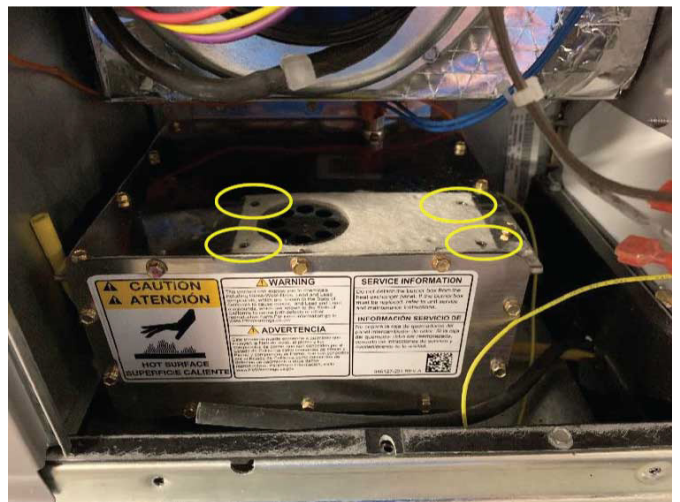
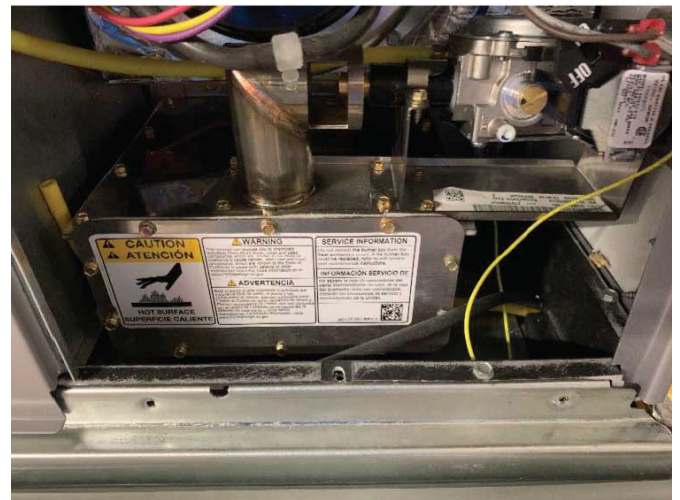

Fig. 14 – Installing the Bracket
Fig. 15 – Bracket Installed
11. Install the bracket holding the gas valve back onto the Burner Box with 4 screws. See Fig. 14.
12. Install the bracket holding the gas valve back onto the Burner Box with 4 screws. See Fig. 14 and Fig. 15.